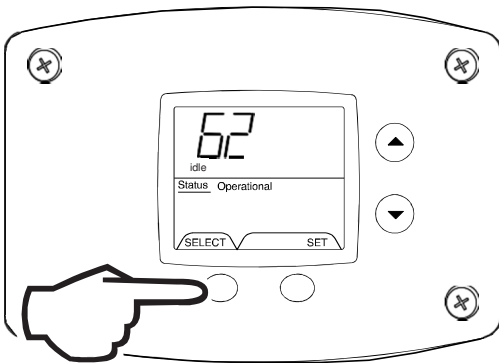

Fig. 70
5. Press the 'Select' button for code index #9 to view if there are any code numbers (Fig. 70).